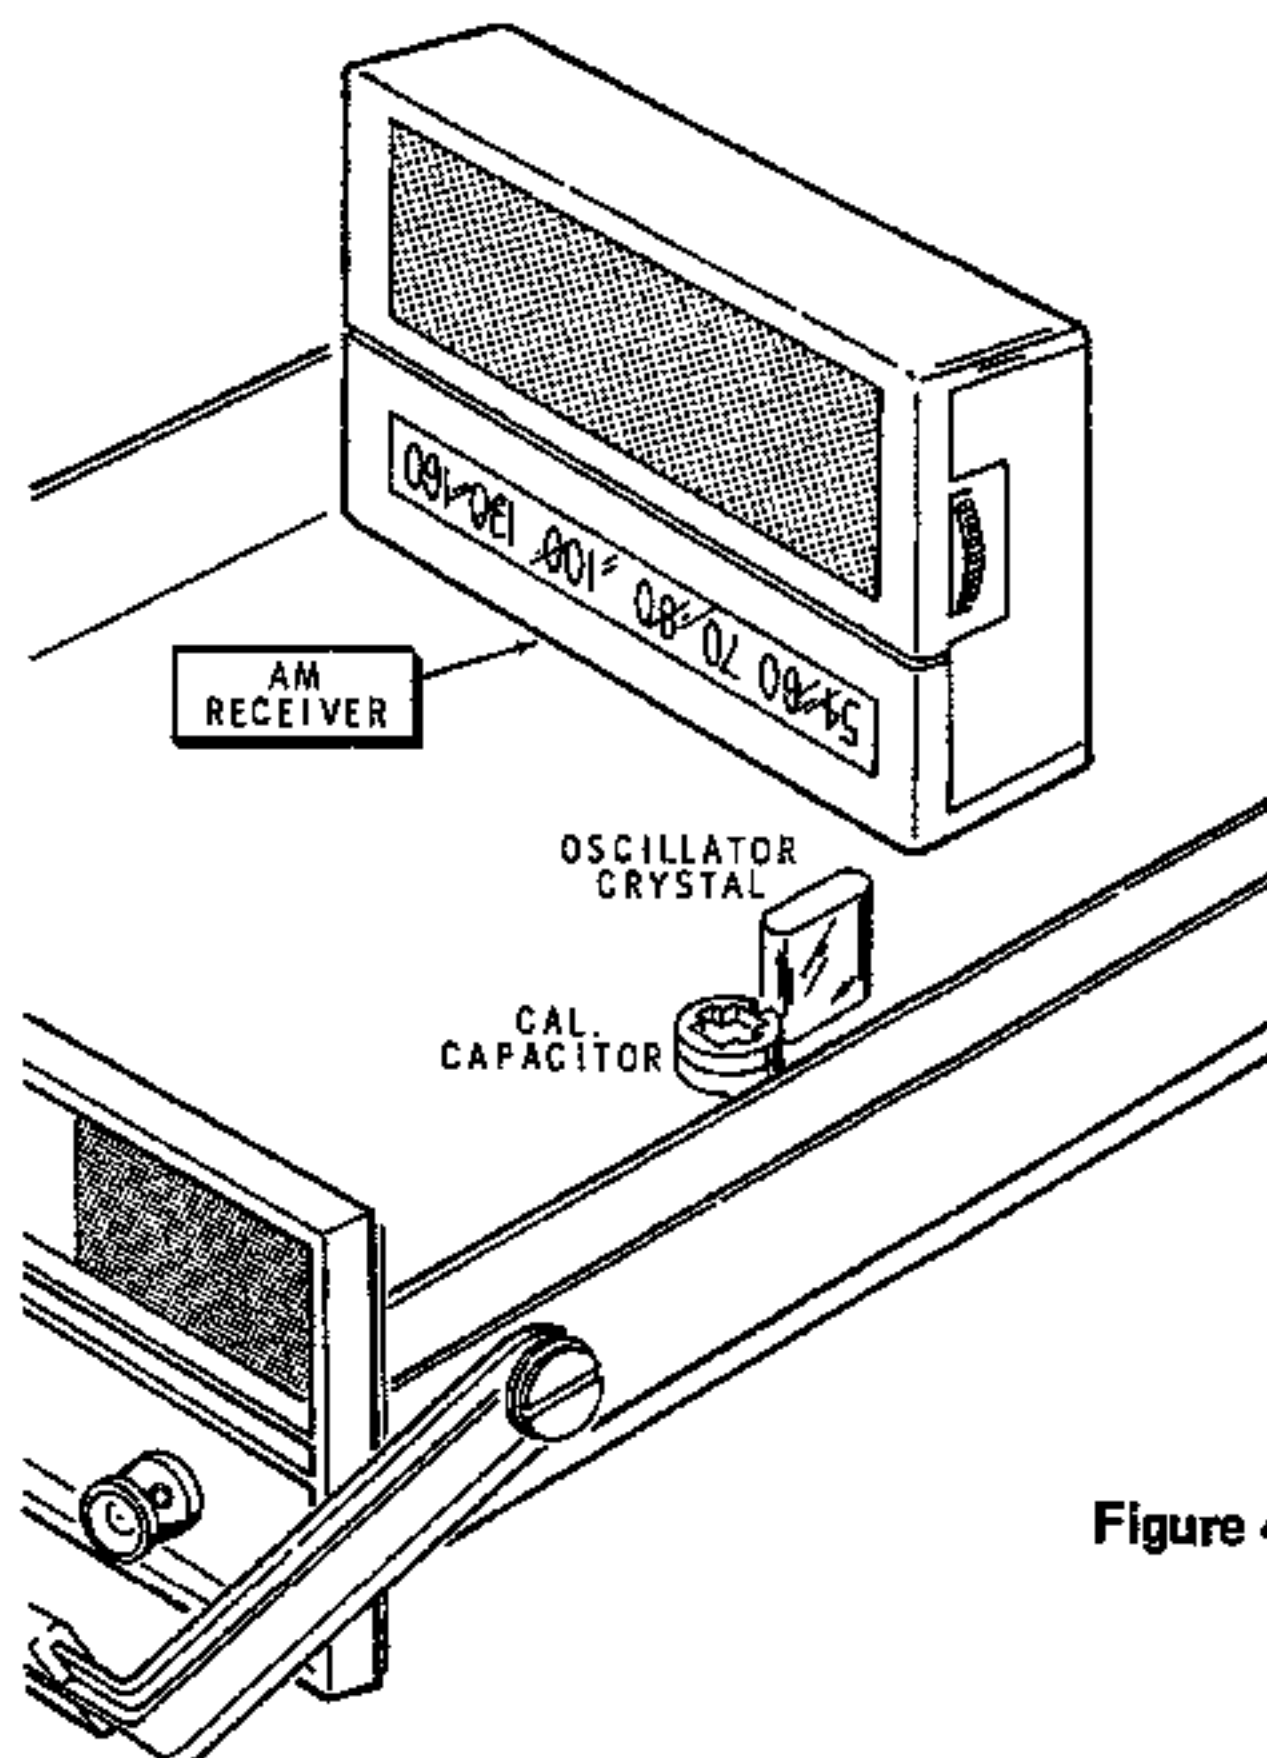

Figure 4
- () Tune a standard broadcast (AM) receiver to any station.
- () Place the antenna of the receiver near the oscillator crystal in the Counter. See Figure 4.